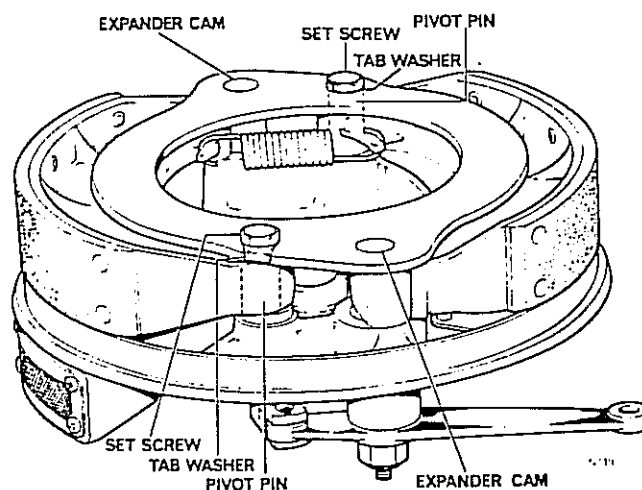

Fig. H14 Twin leading shoe brake with high performance modification
Front Brake with High Performance Modification – See Fig. H14
- 9 Reassembly of this brake is a straight reversal of the dismantling procedure. The brake shoes are identical. When reassembling the brake, lightly grease the expanders and expander bosses in the cover plate, the pivot pins, working areas at the end of each brake shoe and expander cam end spigots. The latter is imperative and molybdenum disulphide grease is recommended at this point. Take care to ensure that the brake shoe springs are properly fitted at both ends before the brake support plate is offered into position. If a new support plate is being fitted, *do not* open the pivot or expander cam holes at all to ease fitting, or the whole purpose of the modification to tie the pivots and expanders in a fixed relationship will be lost. After fitting the plate securing screws and tab washers, tap the tab washers into position as in Fig. H14.